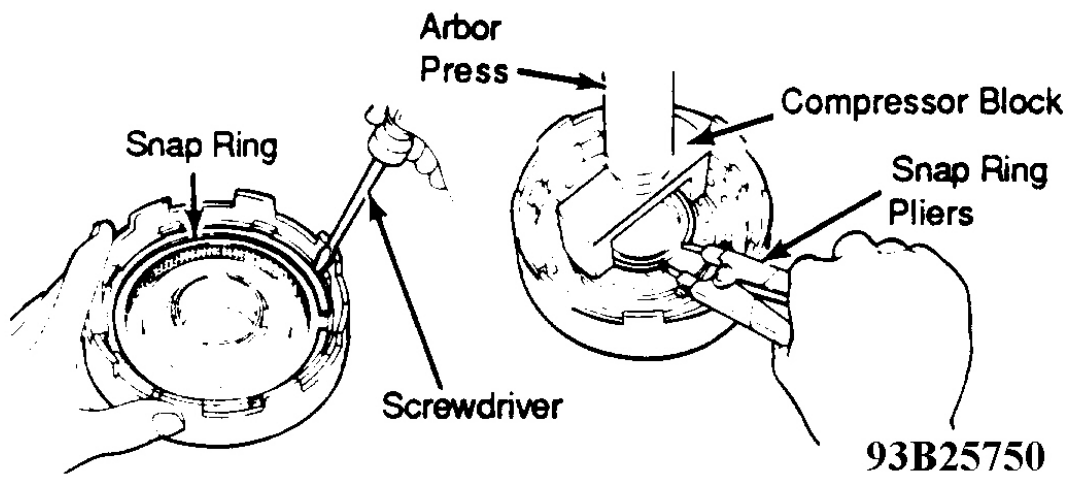

Fig. 19: Removing & Installing Direct Clutch
- Remove snap ring from clutch drum. Remove flange, discs and plates. To compress piston return springs and remove snap ring, place Compressor Block (09351-32070) on spring retainer. Compress springs with an arbor press. See **Fig. 19**.
2. Using Compressor Block (09351-32070) and an arbor press, compress return springs. See **Fig. 19** . Using snap ring pliers, install snap ring in groove. Ensure end-gap of spring is not aligned with spring retainer claw.